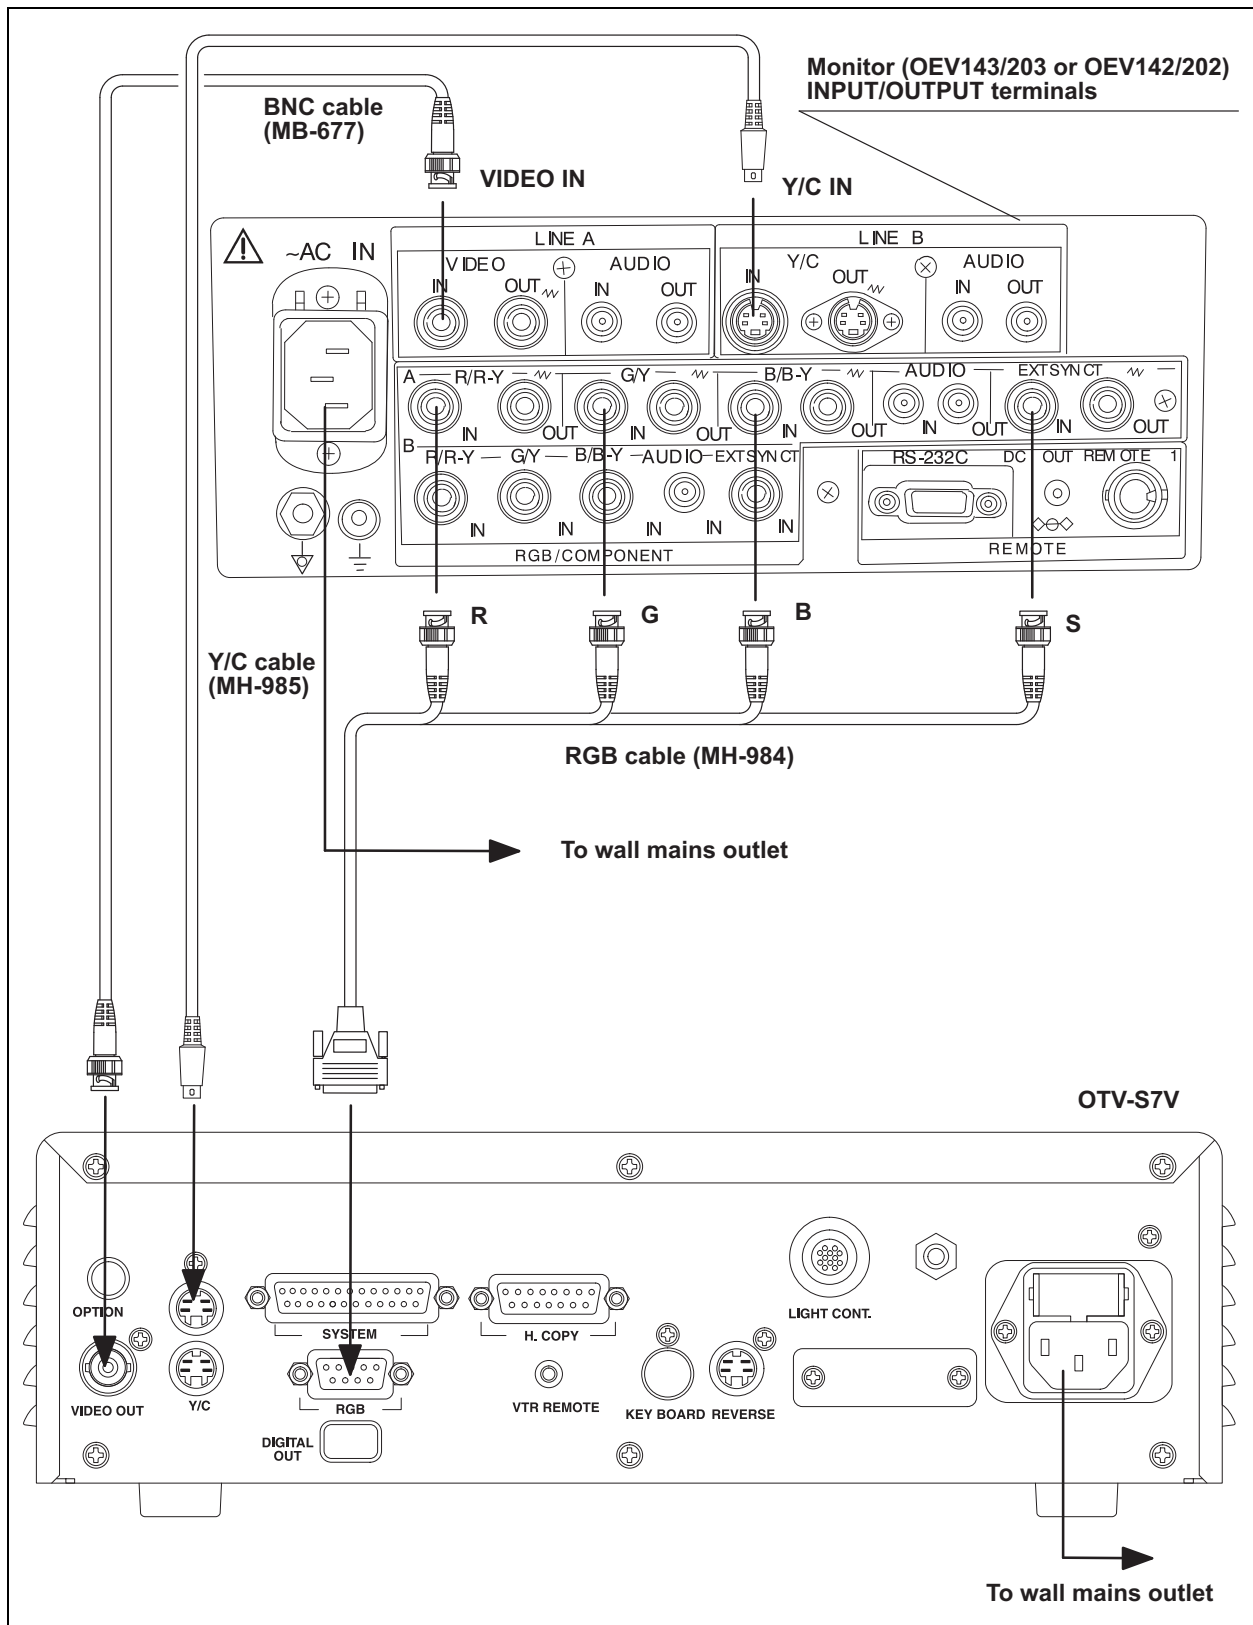

Figure 3.2
2. When using the OEV143/203 or OEV142/202, connect the Y/C cable, BNC cable or RGB cable to the video monitor as shown in Figure 3.2.
- When displaying rotated images by the orientation function (type F and installed in OTV-S7BOD-RT type only), connect the video monitor as shown in Figure 3.2 or 3.3.